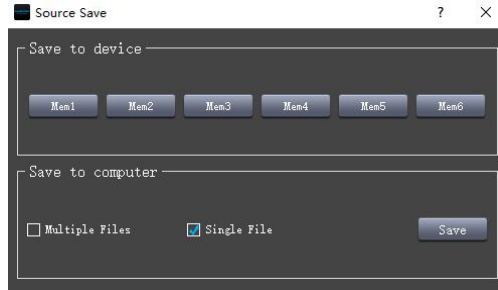

Figure 3.4.2
Step2: Click "Save " item will pop up after the Save As dialog window machine preset (Figure 3.4.2).
Step 3: Figure 3.4.2 dialog box, does not show the name of the data indicates that this scene is the factory default data, select the user preset number you want to save the machine location (such as Source 4), and then point below the "save "button, you pop up as shown in Figure 3.4.2," enter the scene name "box.